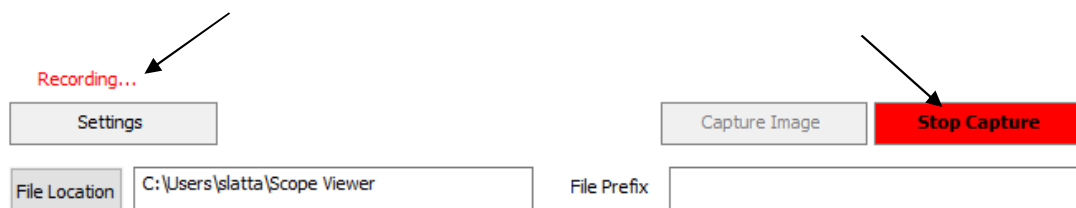

Figure 13
3. To stop recording, click *Stop Capture*. (Fig. 13).